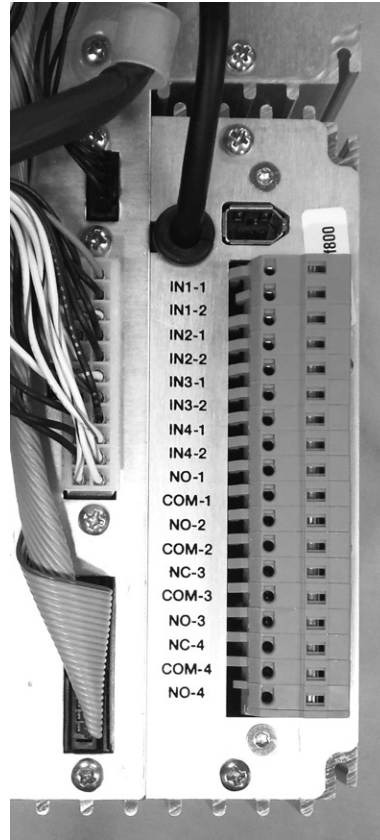

Figure 8. Orange connector install into the I/O module.
- Install the orange terminal connector into the I/O Module, see Figure 8. Connections can be made by pressing the black tool provide inside the control box into the small rectangular holes on the front of the connector while inserting a wire into the round holes in the side.